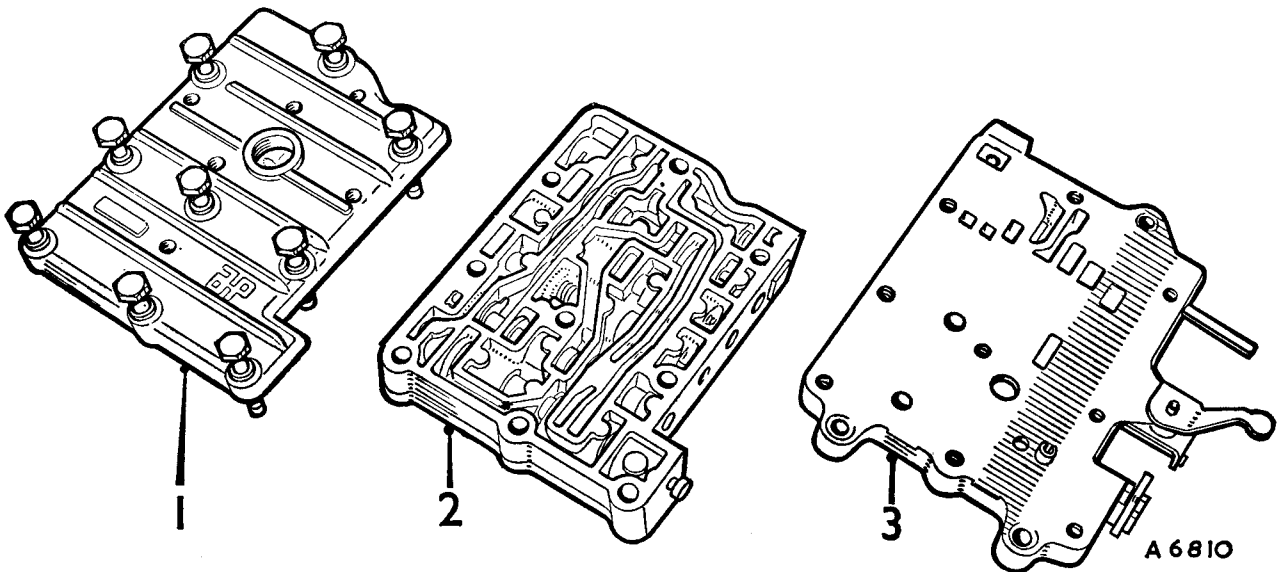

Fig. Fa.25
- (1) Remove the front grille.
- (2) Remove the filter assembly as detailed in Section Aa.2.
- (3) Remove the engine oil feed pipe.
- (4) Drain the engine/transmission unit.
- (5) Remove the transmission front cover and valve block bobbin.
- (6) Place the gear selector lever in the 'R' position on the quadrant.
- (7) Remove the bell-crank lever clevis pin. Unscrew and pull out the selector rod sufficiently to remove the valve block.
- (8) Loosen the servo unit securing bolts.
- (9) Remove the valve block assembly as individual components, i.e. the lid, valve chest, and finally (if necessary) the pipe chest (Fig. Fa.25).
- (14) Remove the lid and valve chest from the pipe chest (if removed as a unit), see Fig. Fa.25.
- (15) Remove the selector and governor valves.
- (16) Remove the ‘C’ clips and the plugs. Remove the regulator valve, spring, and reverse booster piston assembly.
- (17) Remove the ‘C’ clip and the plug. Remove the tow-start valve, spring, and spring retainer.
- (18) Remove the ‘C’ clips and the plugs. Remove the second and fourth gear valves, spring, and booster piston.
- (19) Remove the ‘C’ clip and tap out the plug. Remove the third gear valve booster piston, spring, spring retainer, and the plastic plug.